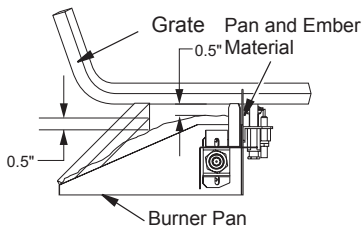

Figure 22 - Pan and Ember Material Clearances
4. Place just enough to cover entire surface and leave about a 1/2" gap under lower grate members to allow air to flow (see Figure 22, page 15).